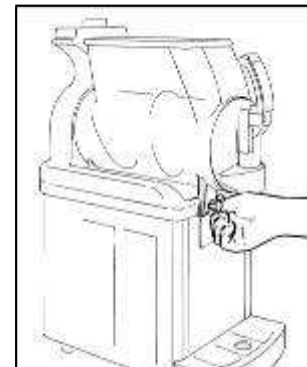

**Рис. 38**
- Reassemble the bowl by positioning it back into its seat, verifying that it faces in the correct direction and it is held in place by its seal (see Рис.38).